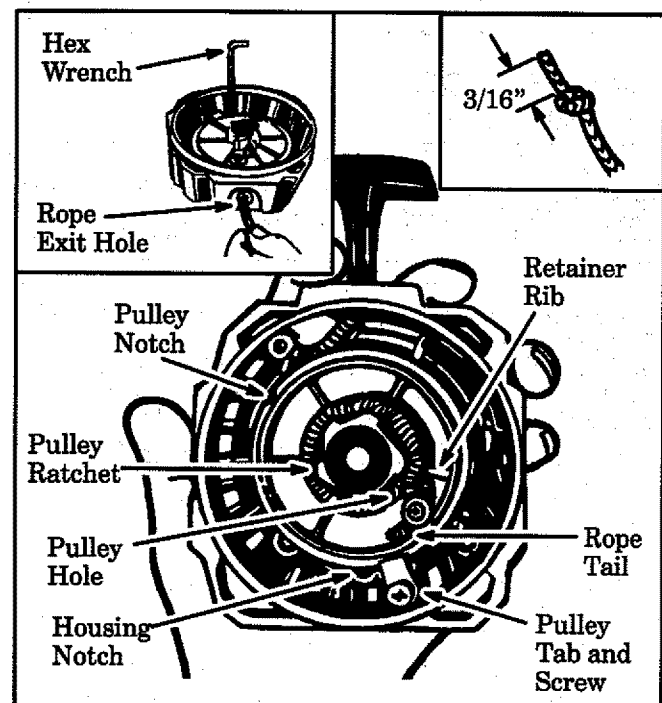

Figure 28
12. Turn the pulley counterclockwise until the pulley notch is aligned with the housing notch next to the retaining tab and screw. Figure 28 .
14. Insert the hex wrench into the hole formed by the notches to hold the pulley in position. Figure 28 (inset—upper left).
18. Insert one end of the rope through the handle and secure with a knot. Leave a 3/16" pigtail behind the knot. Figure 28 (inset—upper right).
19. Insert the other end of the rope through the rope exit hole into the inside of the housing, into the pulley and up through the pulley hole. Figure 28 .
20. Wrap the rope counterclockwise around the pulley ratchet and tuck loose end under the rope at the pulley hole. Figure 28 . Leave a 1 inch tail laying flat on top of the pulley between the retainer rib and the retainer screw/post. Figure 28 .